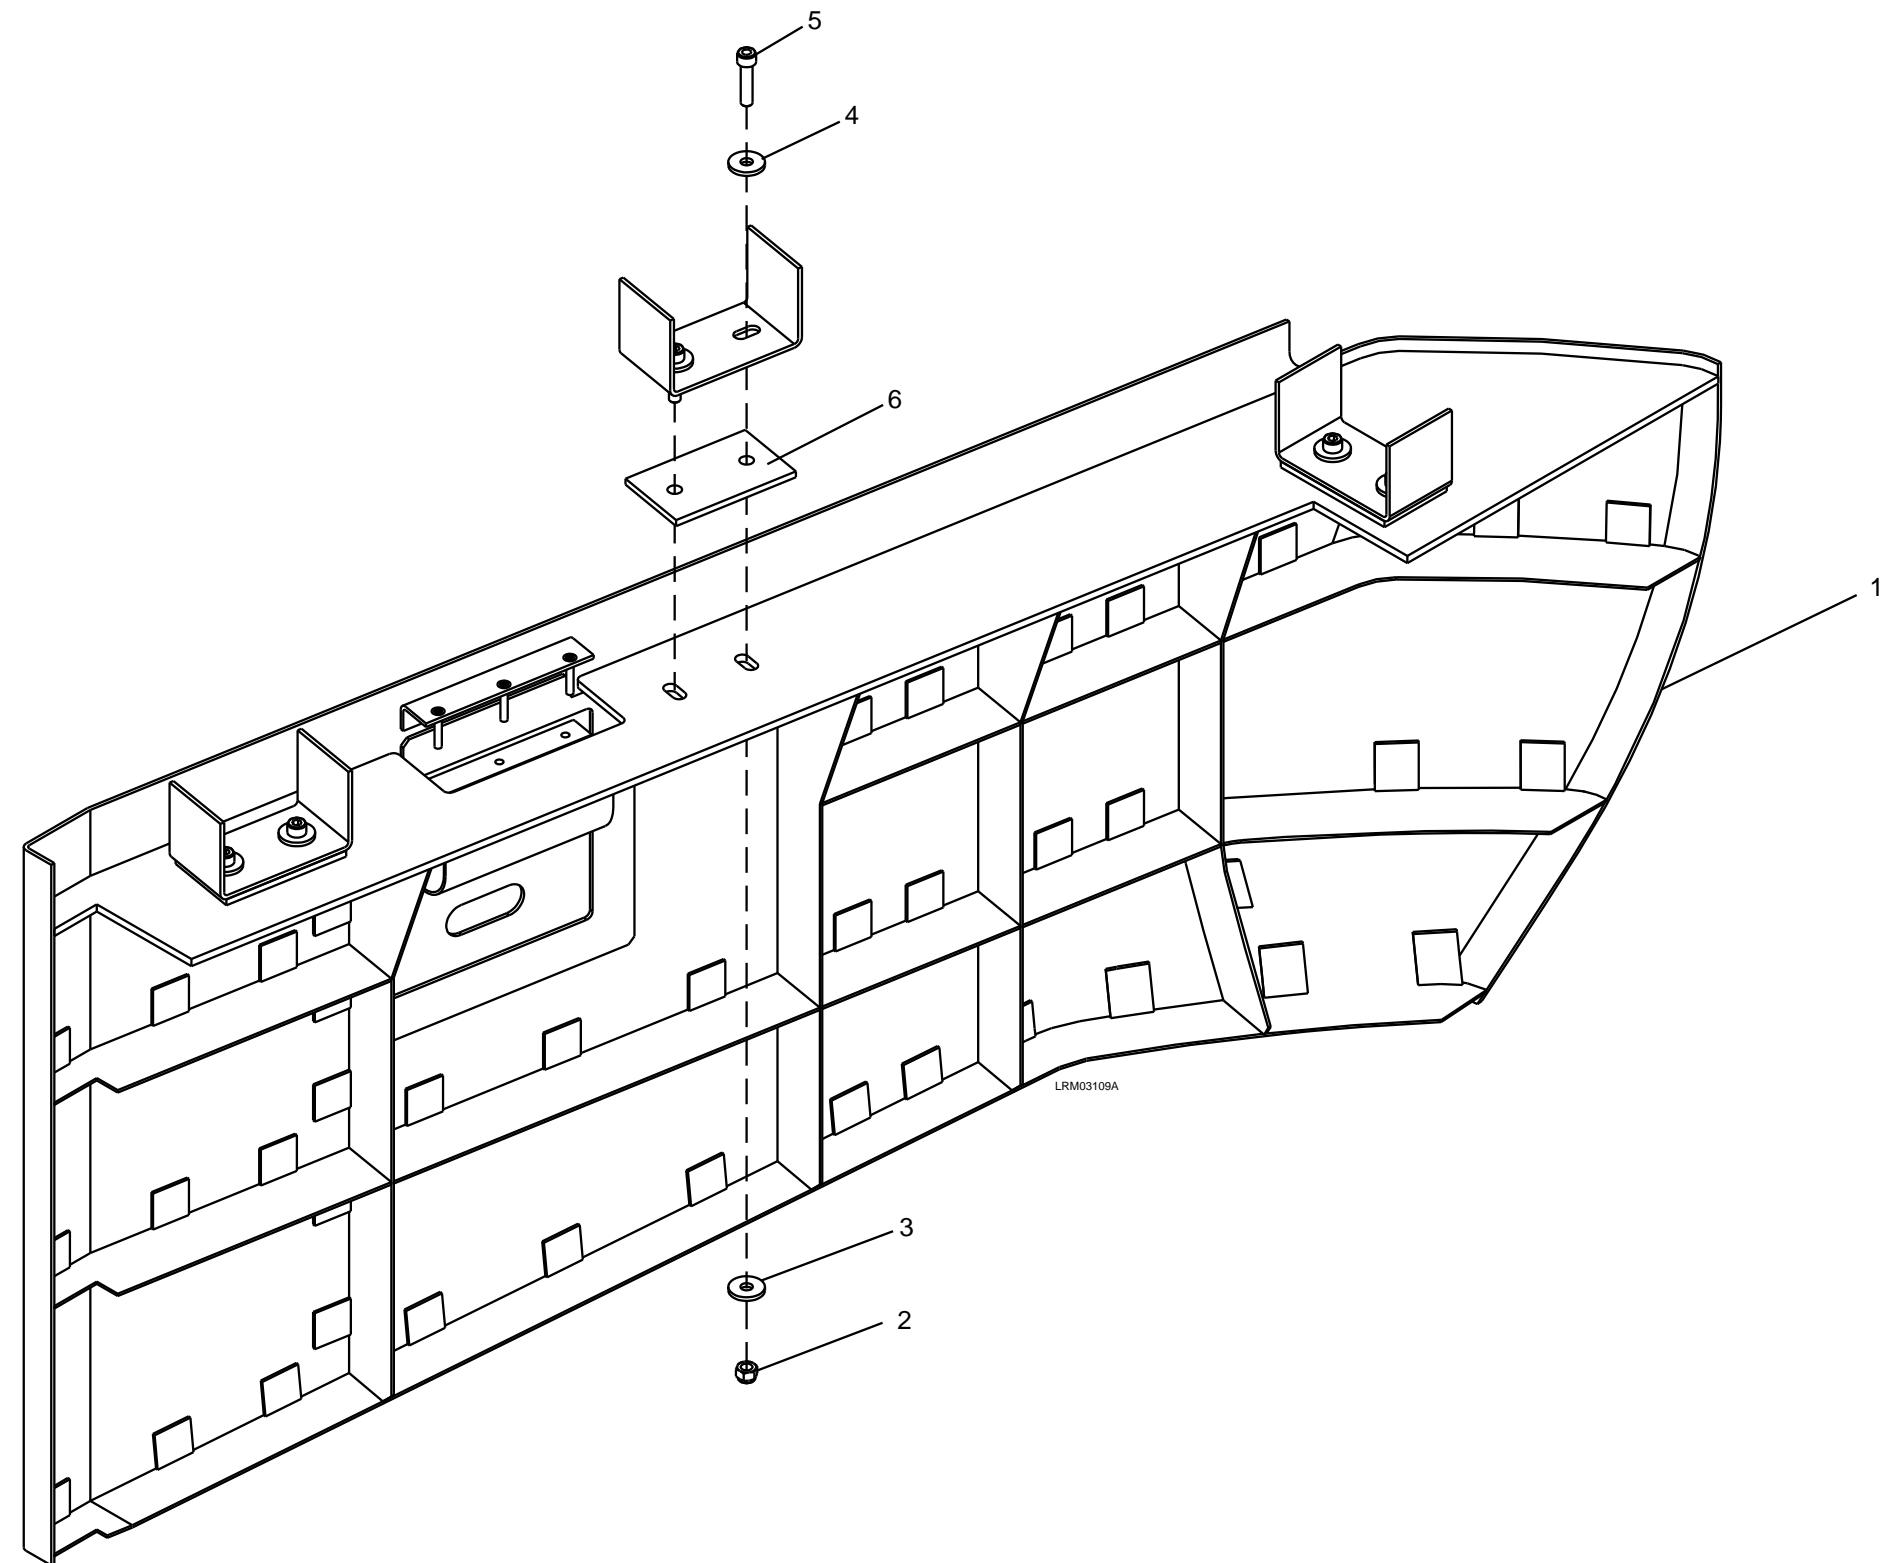

Figure 7-73: Stationary Skirts
1. Remove the six M8 ESNA nuts (2), M8 plain washers (3), M8 x 35 socket head screws (5) and M8 plain washers (4). See Figure 7-73.
2. Remove shims (6).
3. Carefully remove the Stationary Skirt (1).